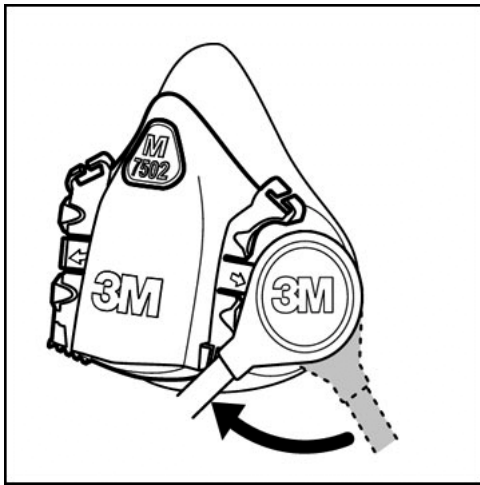

Fig. 7
- Twist each branch of breathing tube clockwise a quarter turn until it is firmly seated in the bayonet and cannot be turned further. (Fig. 7 and 8) Do not forcibly overturn as the bayonet could be damaged. 3M SA-1500/SA-2500 shown.